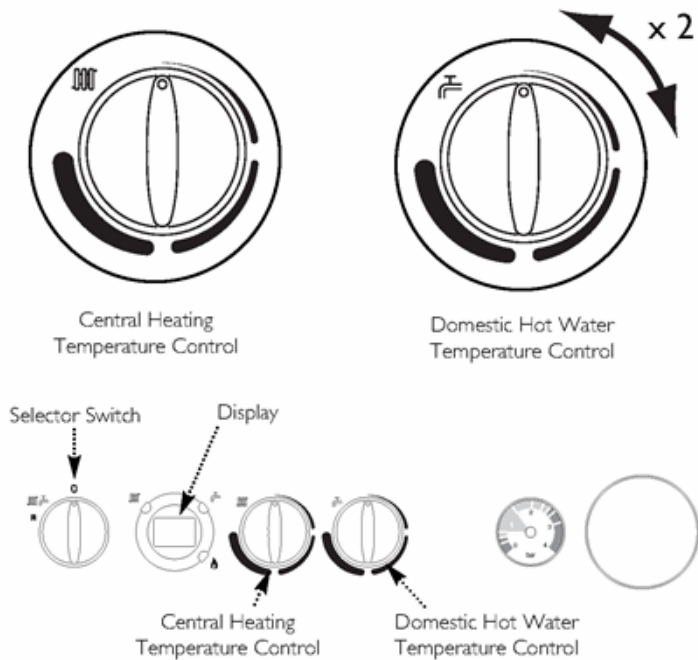

Fig. 55
4. Turn both temperature control knobs fully anticlockwise, then quickly turn the DHW temperature knob 1/4 clockwise twice and back fully anticlockwise (Fig. 55).